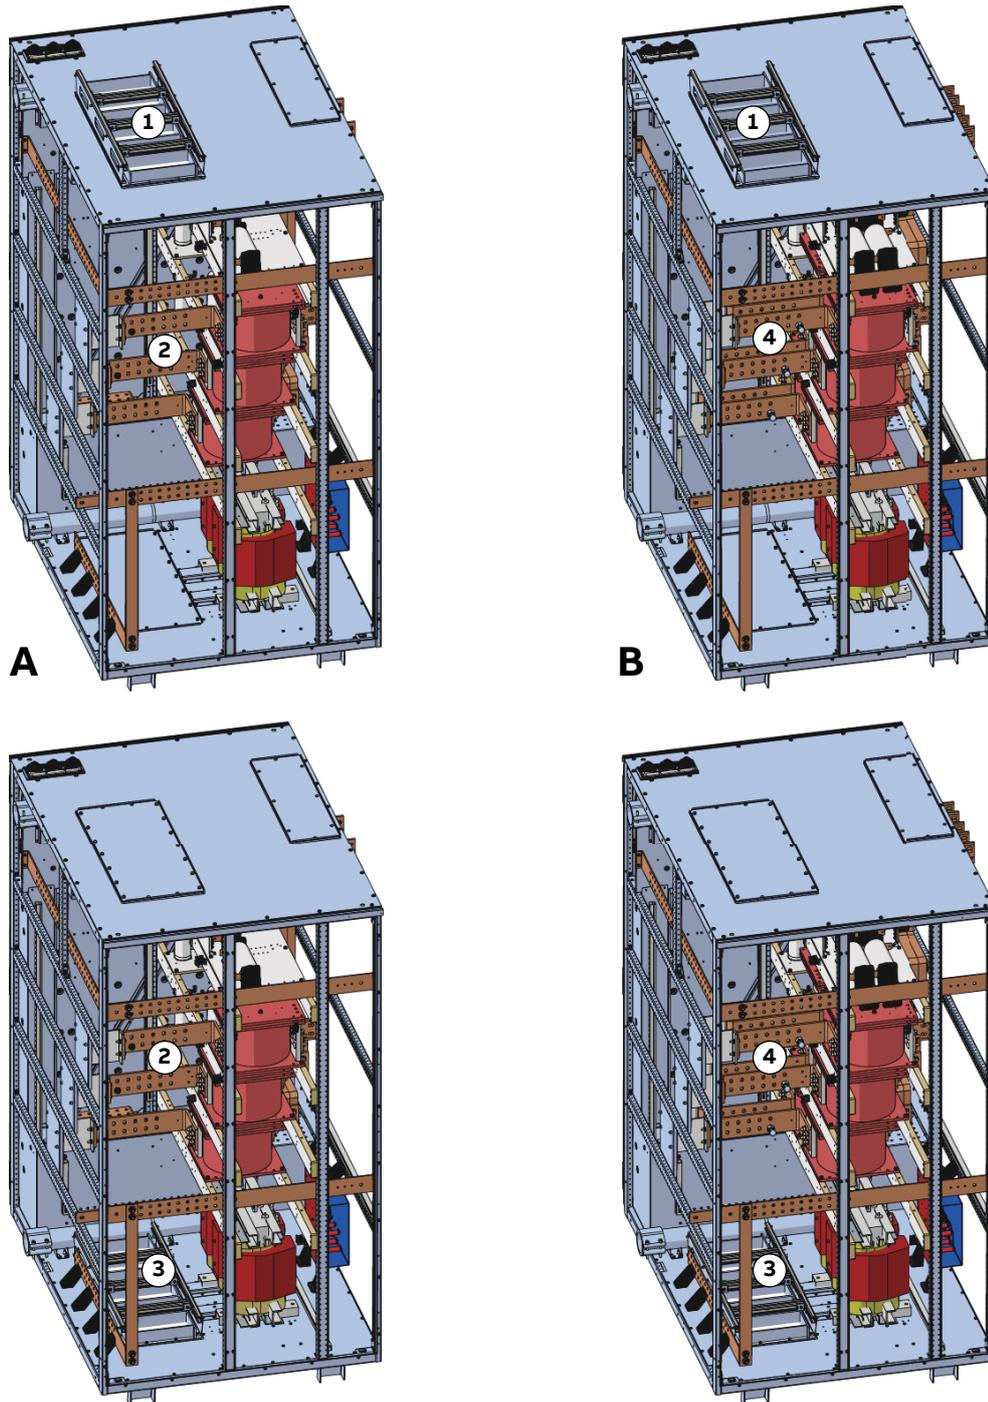

Figure 6-18 COU cable terminals, top and bottom entry (back view) - frame sizes 1 and 2 (A) and 3 and 4 (B)
- Motor cables to the busbars inside the COU (Fig. 6-18)